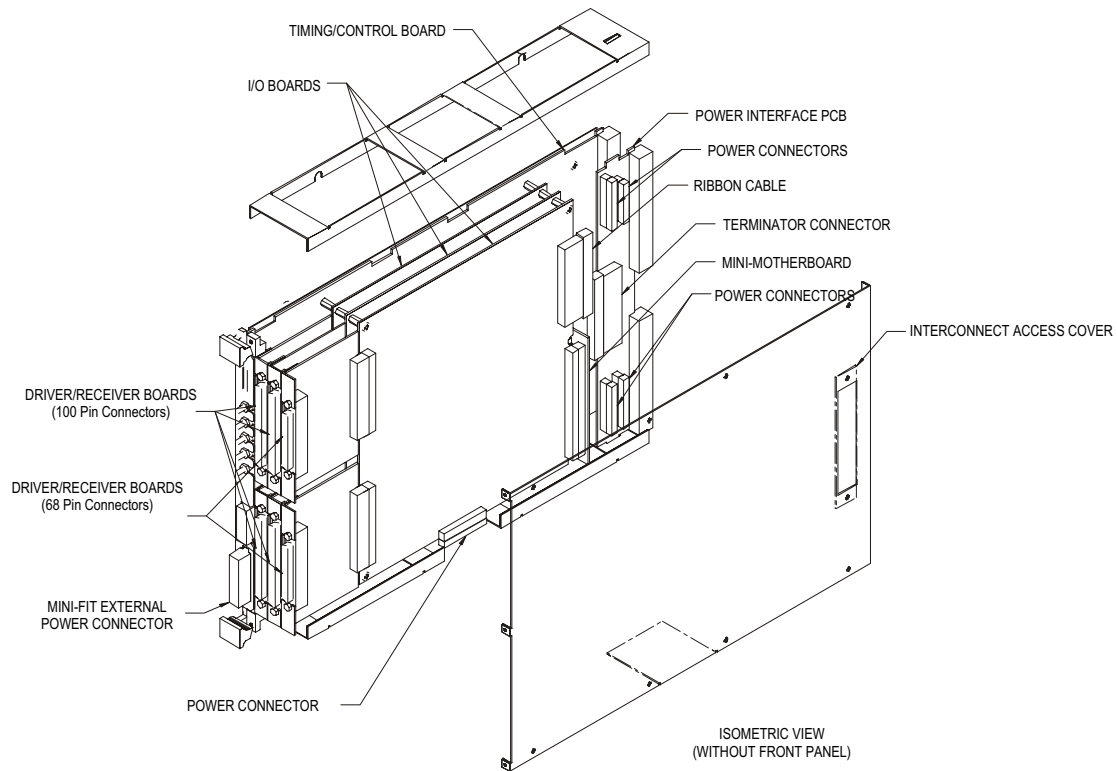

Figure 1-2. SR2510 Main Module, Exploded View Showing Major Components.
The message-based SR2510 provides clocking and test sequence control functions for all I/O channels within the SR2510 module, and for all SR2520 Expansion Modules as well. The SR2510 consists of a Timing/Control board, up to three (3) I/O boards, up to six (6) Driver/Receiver boards (two per I/O board) and boards for timing distribution, power distribution and interface logic for any SR2520 expansion modules, see Figures 1-2 and 1-3. The Timing/Control board contains a 25 MHz 68EC030 microprocessor (system processor) that provides the basic user interface to the SR2500 system. The 68EC030 parses and interprets the VXI word-serial commands and provides overall system setup and test monitoring. The SR2510 also contains a custom control processor ASIC that provides real-time control over the test pattern sequencing. The control processor is capable of providing sequential or nested program looping and conditional or unconditional jumps and subroutines. Overall test timing is provided by a programmable 200 Hz to 25 MHz frequency synthesized clock source as well as external inputs for clocks, gates, test inputs and triggers. For additional details, refer to the *SR2510 User's manual*.